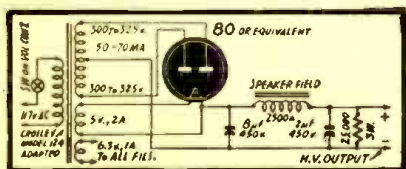
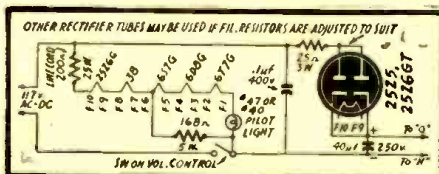
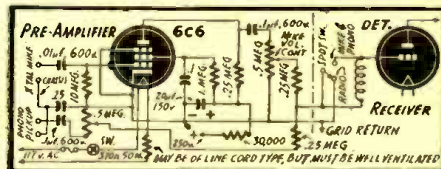

Figure 1
Figure 2
Figure 3
A. The circuits illustrated appear to suit your requirements (see Figs. 1 and 2).
Of the diagrams shown, Fig. 1 is the simplest but will not handle severe interference. Fig. 3 is for the severe types and Fig. 2 is for the intermediate degrees of interference. The diagrams are self-explanatory, but before installing a filter it is advisable to make certain your interference is not due to direct radiation or starter trouble mentioned above.
A. The circuit shown here (Figure 3) includes a mike pre-amplifier diagram and a diagram of your set. The connections between the two are as indicated.